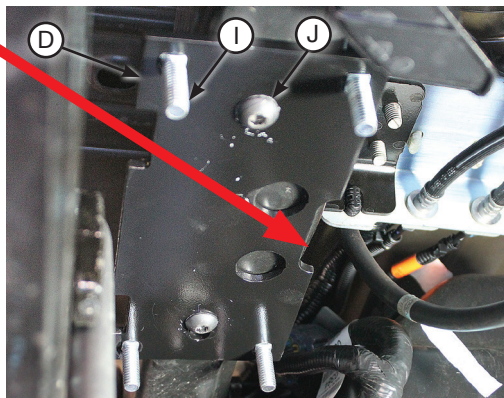
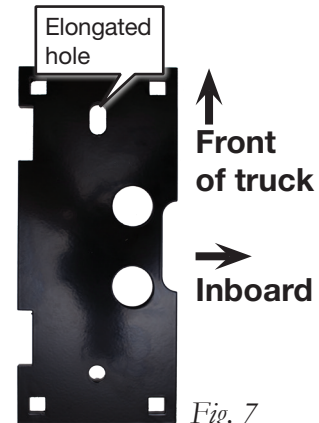

Fig. 6
Fig. 7
5. Insert the 3/8"-16 x 1 1/4" carriage bolts (I) into the upper frame brackets (D) and install the upper bracket onto the frame using the M10-1.5 x 35mm button-head cap screws (J). The slot that is on the side of the bracket should be inboard of the frame rail (Figs. 6 & 7). The elongated hole should be toward the front of the truck (Fig. 7). Torque hardware to 38 lb.-ft. (52Nm).